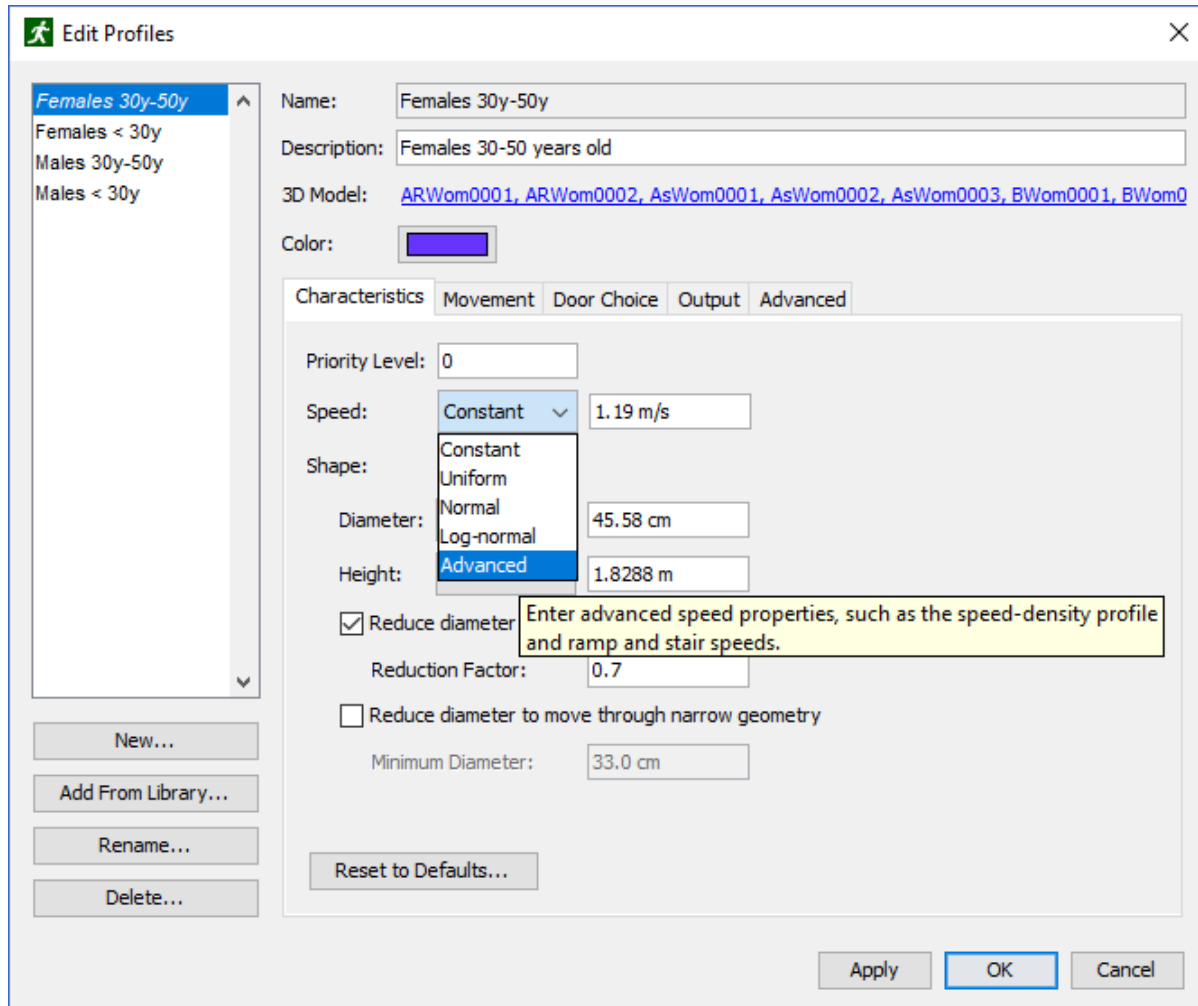

Figure 87. Editing advanced speed properties
3. Next to **Speed**, click the drop-down box and select **Advanced** as shown in Figure 87.